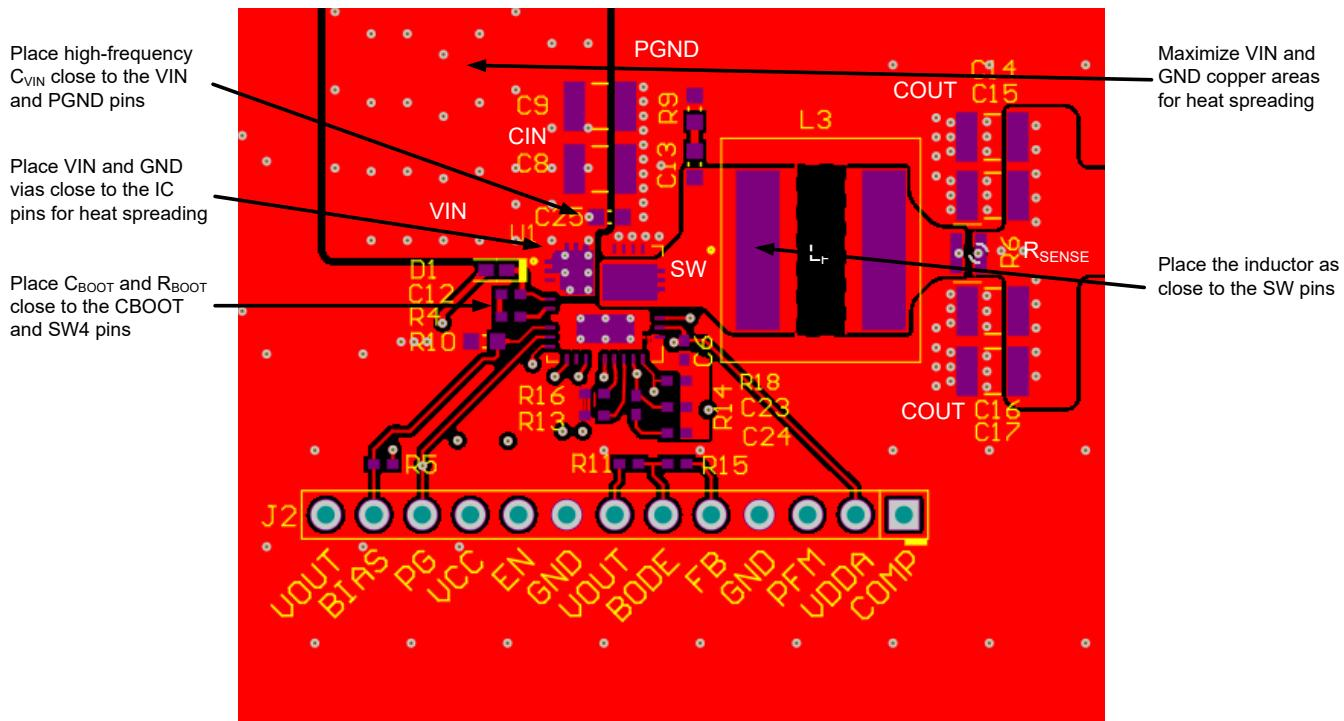

Figure 7-33. PCB Top Layer – High Density, Single-sided Design
The following list summarizes the essential guidelines for PCB layout and component placement to optimize DC/DC converter performance, including thermals and EMI signature. Figure 7-33 shows a recommended layout of the LM704A0-Q1 with optimized placement and routing of the power-stage and small-signal components.
- Use low-ESR ceramic capacitors with X7R or X7S dielectric from VIN to PGND. Place an 0402 capacitor close to VIN for high-frequency bypass as shown in Figure 7-33. Use additional 1206 or 1210 capacitors for bulk capacitance.